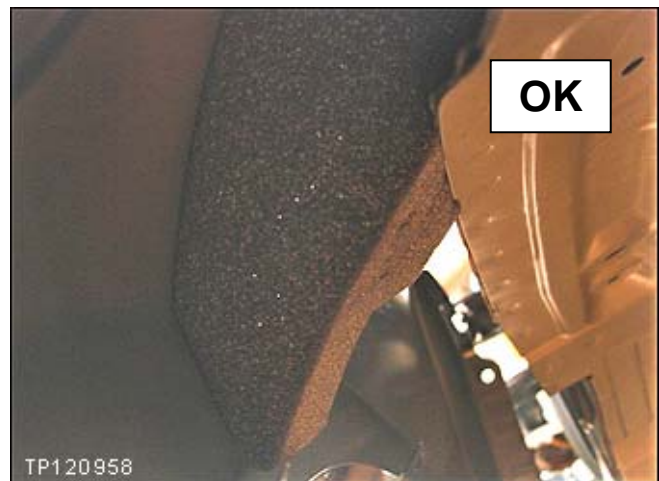

Figure 13
- Figure 13 – baffle is **installed correctly**.